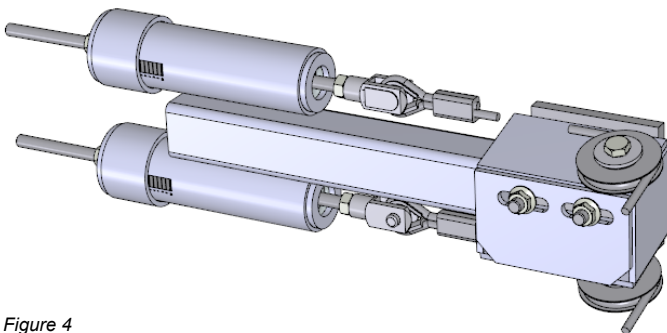

Figure 4
- steep system tensioner (Figure 4), or